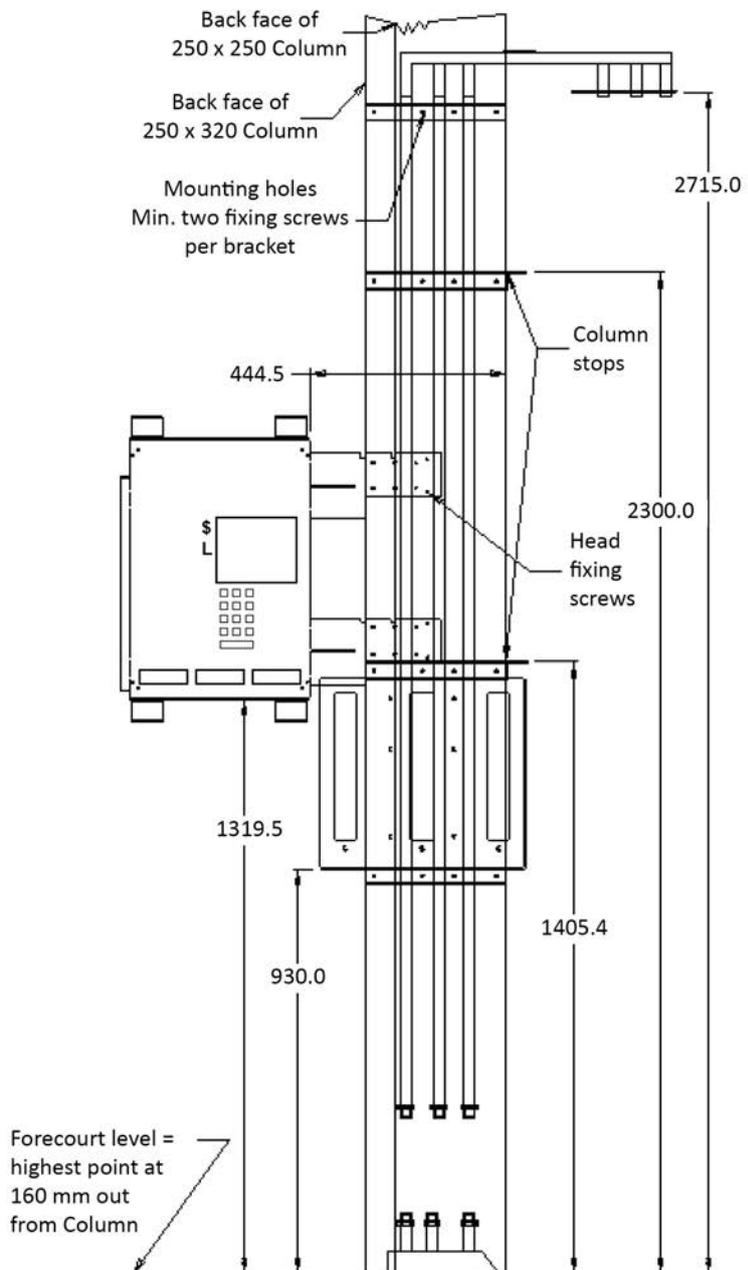

Figure 8. Vertical Delivery Pipes Assembly Mounting Positions
Note: Marks should be made horizontally, as they will later be used to align vertical pipe and holster assembly mounting brackets (refer to Figure 8 for details).
- Secure the head into position with clamps. Drill pilot holes into the column through the holes in the head mounting brackets and fix the head with screws as per vertical pipe assembly (**see Figure 8**).